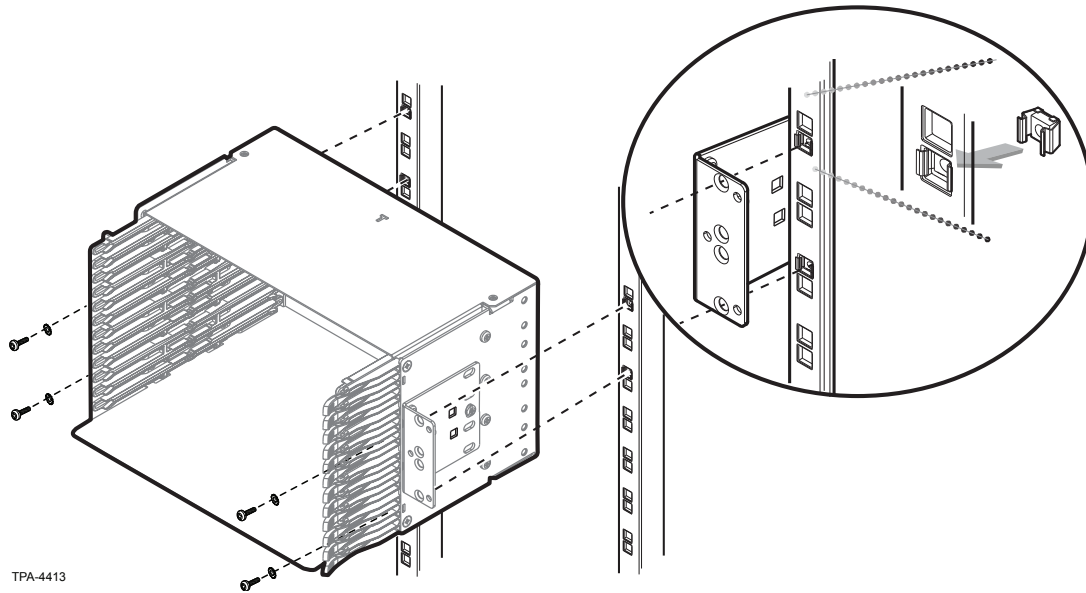

Figure 2
Step 2: Install the housing into the rear cable access frame (Figure 2) as described in SRP 003-948.